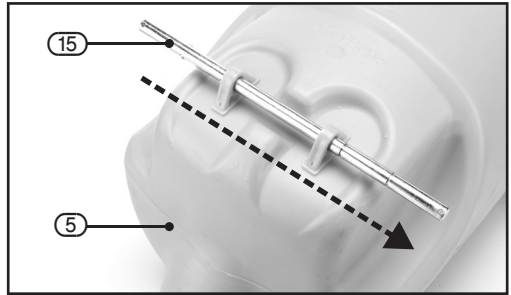

FIG.1
– FIGS. 1 – 4
- Slide the wheel axle (15) through both of the axle mounting brackets located on the bottom of the spray bottle (5).